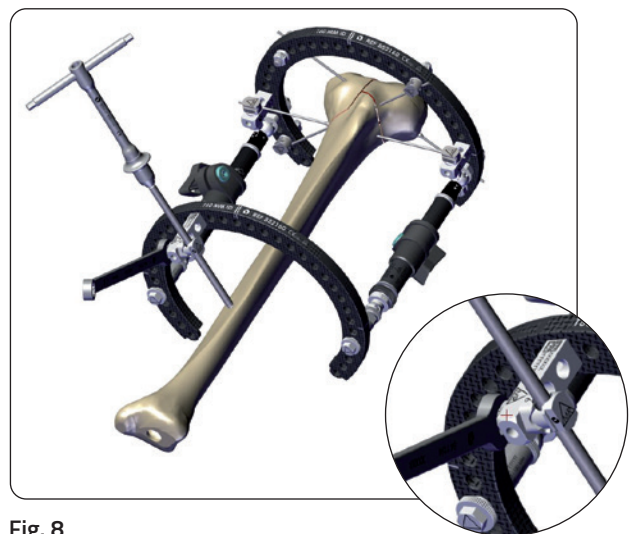

Fig. 8
5. The half pin fixation bolt is then secured firmly to the external support with a nut using a 10mm Wrench (**Fig. 8**).